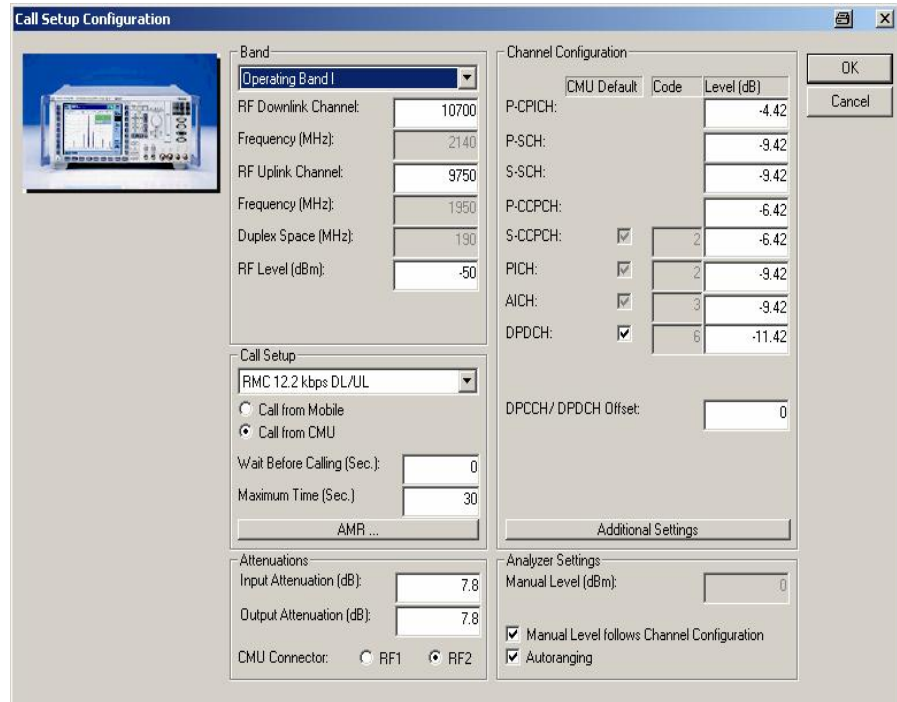

Fig. 6.8_3: Call Setup configuration
- 5) Enter the path loss you measured between UE and CMU200 as *Input Attenuation* and *Output Attenuation* (lower left in Fig. 6.8_3)